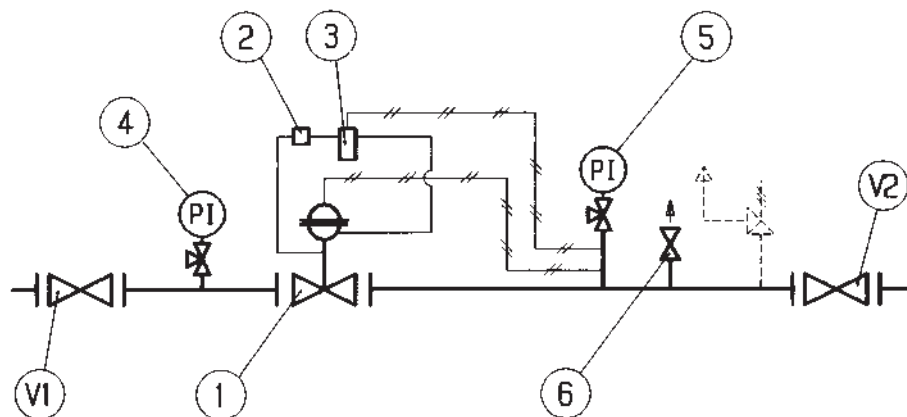

Fig. 12
5.3 COMMISSIONING THE REGULATOR (FIG.12)